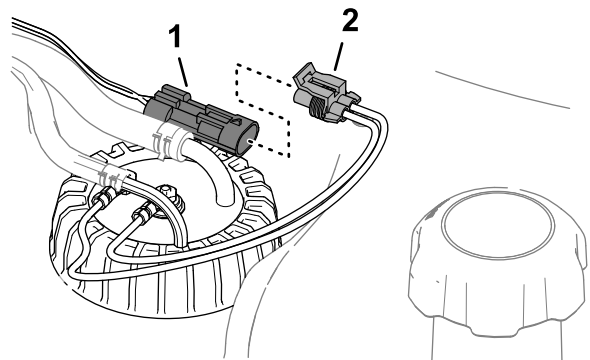

**Figure 118**
2. Remove the 5 Phillips-head screws that secure the fuel-sender cover to the fuel tank, and remove the cover (Figure 118).